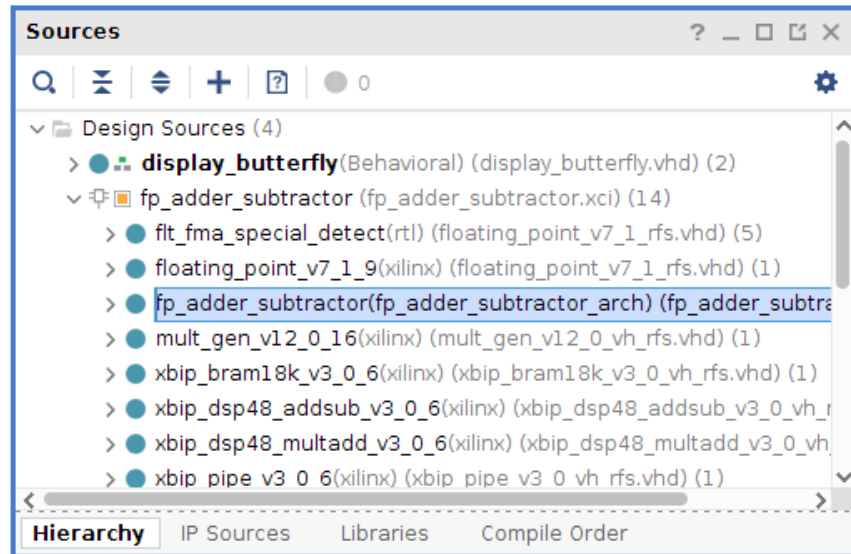

Figure 3: Floating-point IP
6. In the expanded sources, double click on the `fp_adder_subtractor.vhd` file to open it, as shown in Figure 3.